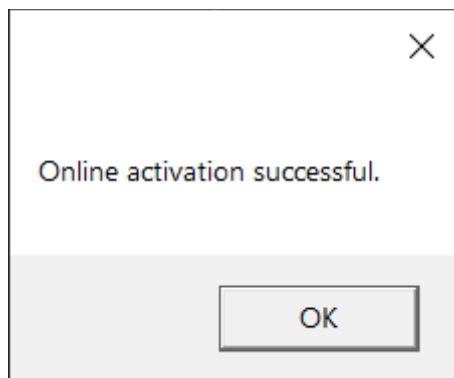

Figure 5 - Activation successful message will pop up after entering legitimate Activation ID
1. *Select* -> **Offline Activation** tab (Figure 5).